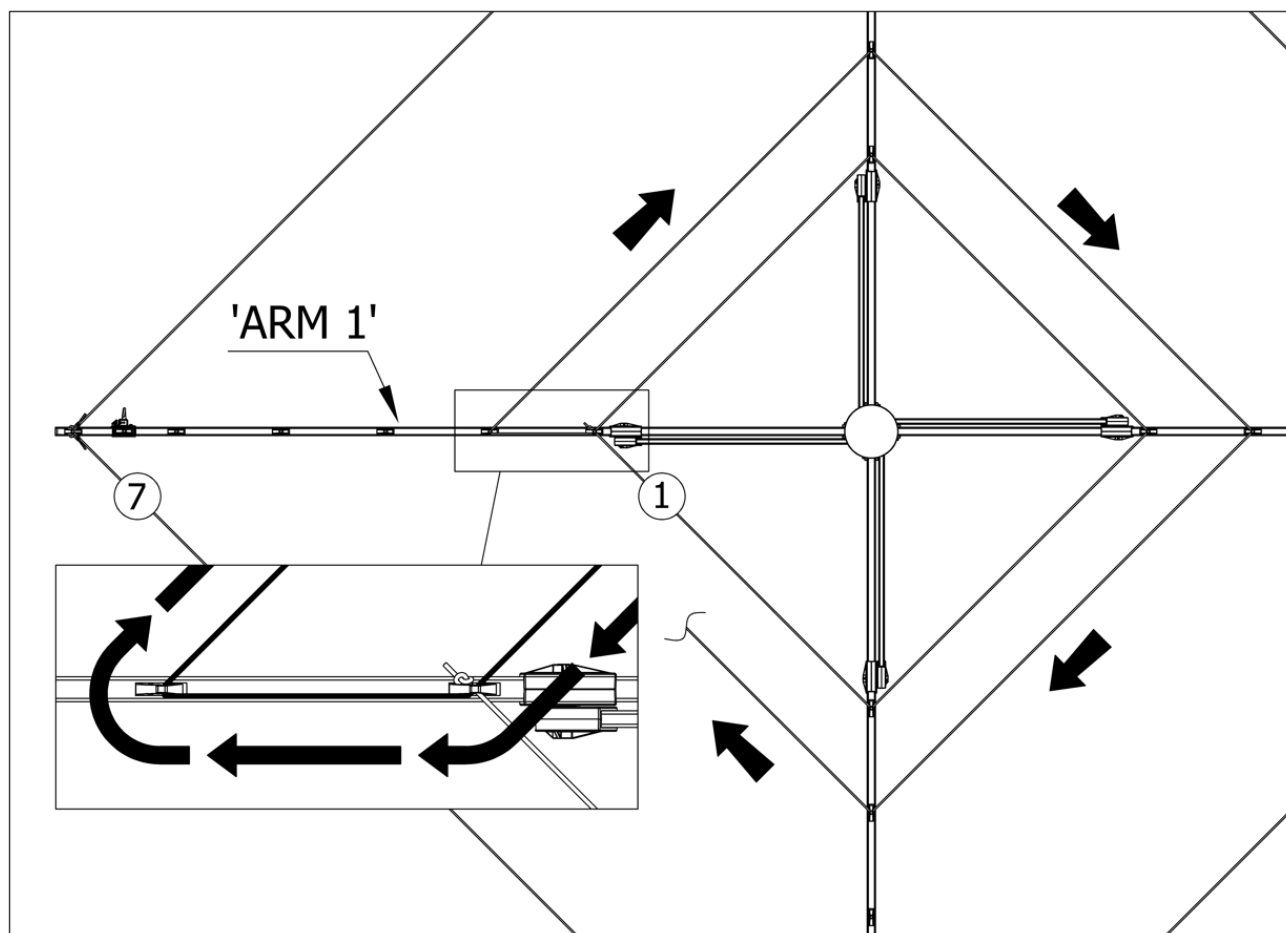

Fig 8. Cording second line. (Viewed from above)
1. Pull the cord back into the first clip and then run the cord parallel to the arm up to the next clip. (Fig. 8)
2. Cord line 2 in a clockwise direction. (Fig. 8)